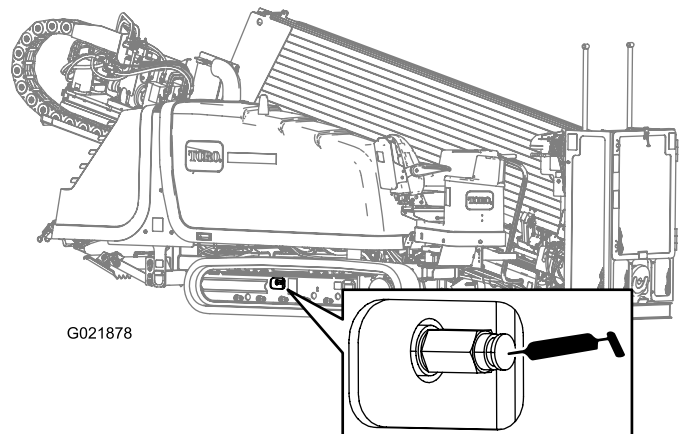

Figure 99
2. Remove dirt and debris found around the track-tension grease valve (Figure 99).
4. Apply grease to the fitting until the tension reaches 22,063 kPa (3,200 psi) as shown in Figure 99.
4. Turn the track-tension grease valve counterclockwise **no more than 1 revolution** (Figure 99).